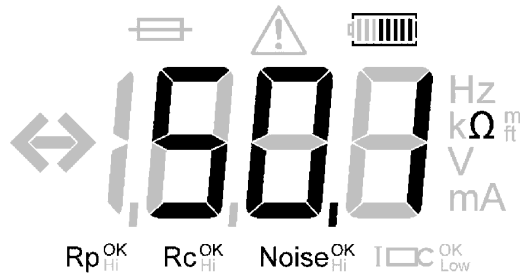

Figure 6: Three point resistance and four point resistivity reading
5. A resistance reading will be displayed on the LCD display, as shown in Figure 6.
6. A resistance reading will be displayed on the LCD display, as shown in Figure 6.